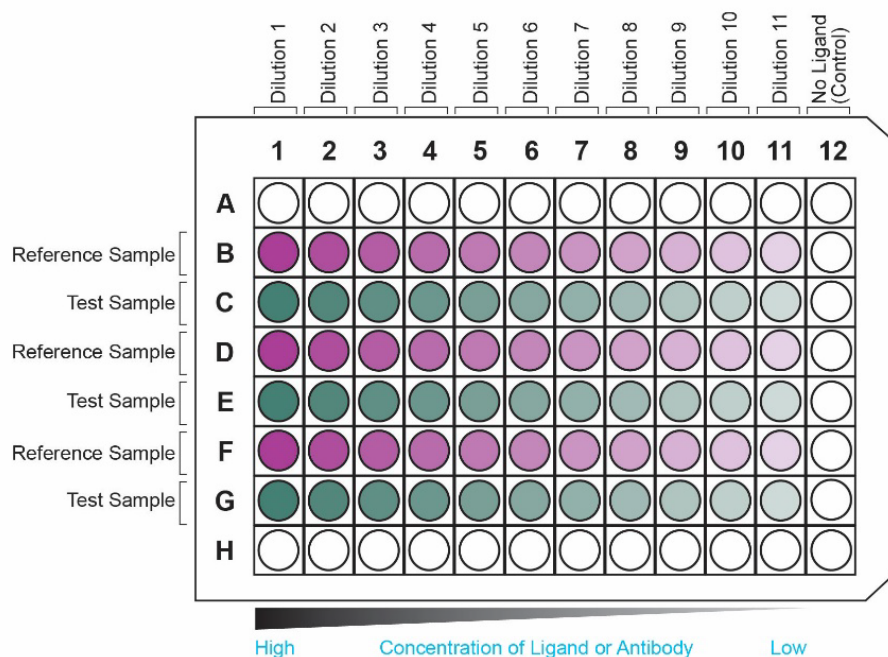

Figure 4: Representative Assay Plate Map
5. Transfer 15 μ L of the agonist dilution curve(s) prepared in Step 2, from each well of the master dilution plate, to the appropriate wells of the assay plate. Refer to Figure 4: Representative Assay Plate Map.